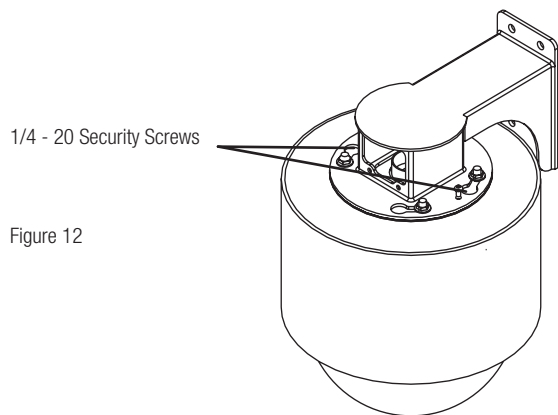

Figure 12
2. Reattach and tighten the (2) security screws (Figure 12).